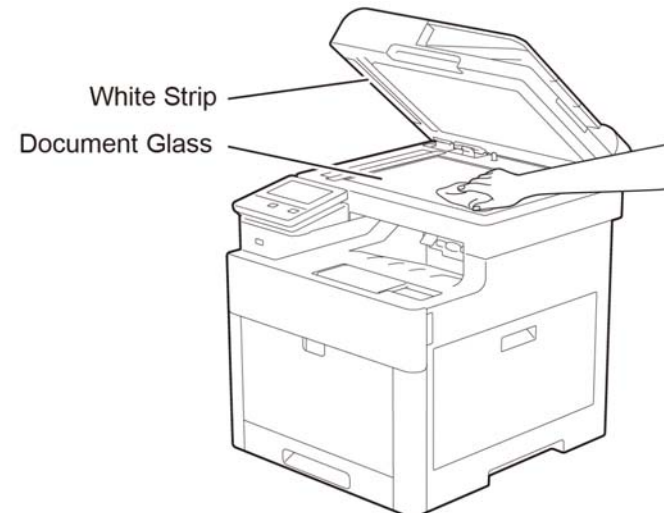

Figure 1 Clean the document glass
4. Clean the document glass, the side-1 scanning area (to the left of the of the document glass) and the white strip, Figure 1.